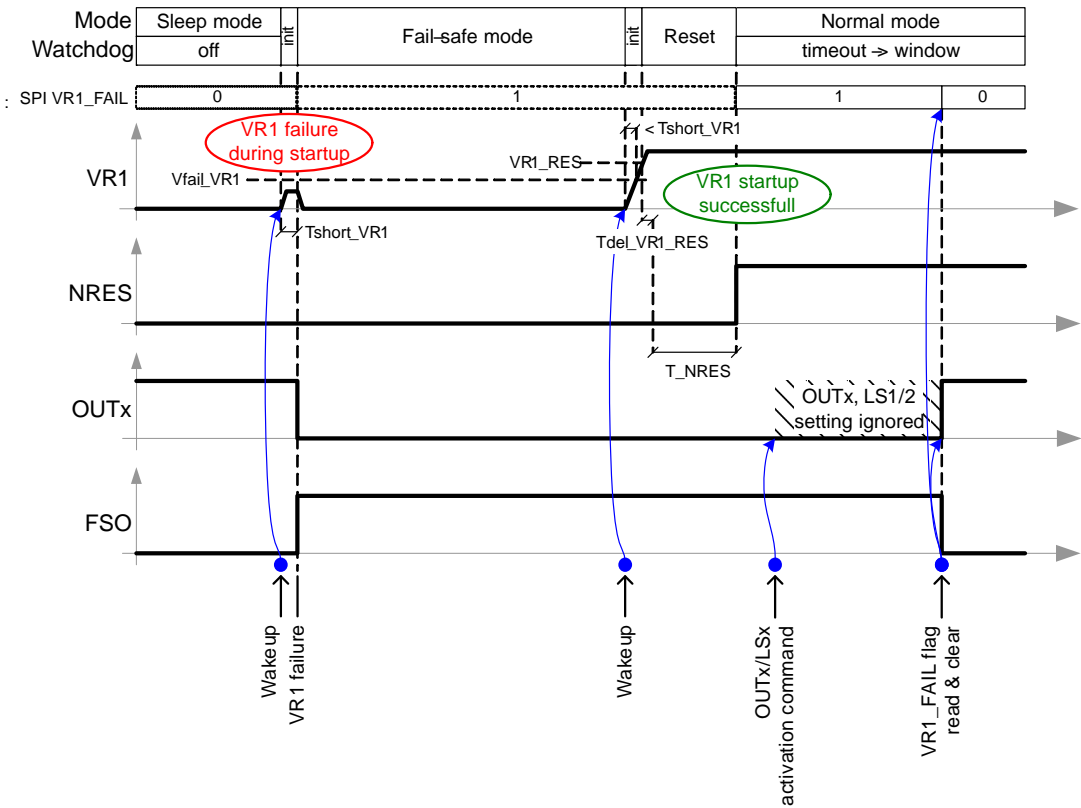

Figure 10. VR1 Monitoring – VR1 Failure during Startup
- VR1 Failure Comparator – during the VR1 start-up and operation, the VR1 voltage is continuously compared with *Vfail\_VR1* level (typ. 2 V). During startup, if VR1 does not rise above *Vfail\_VR1* level within *Tshort\_VR1* (typ. 40 ms), it’s considered shorted to ground and the device is forced to the Fail-safe mode (see Figure 10). During the VR1 operation, any dip below *Vfail\_VR1* level longer than *Tfail\_VR1* (typ. 5  $\mu$ s) is considered as a failure – temporary excursions of VR1 under the failure threshold can be caused, for example, by EMC, and can lead to memory data inconsistencies inside the MCU. Both the failure during VR1 startup and the operation are latched in the “VR1\_FAIL” SPI bit for subsequent software diagnostics.